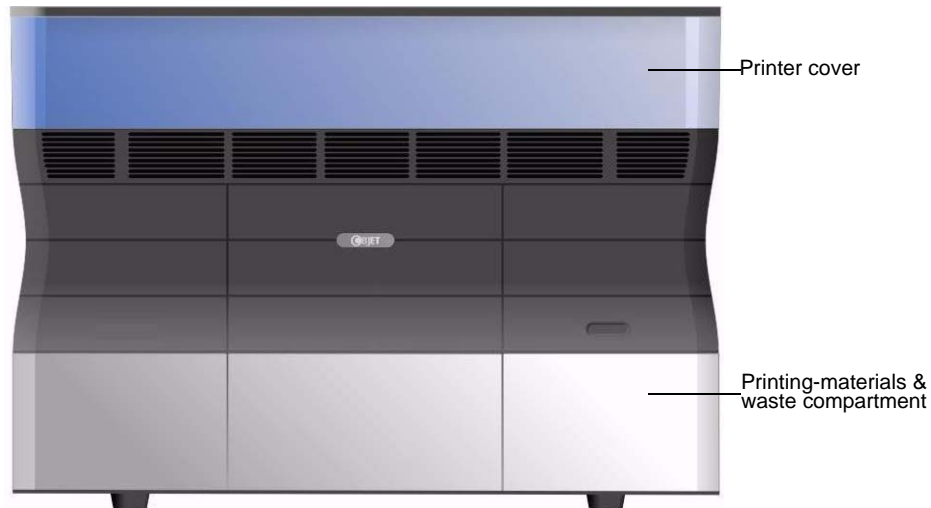

Figure 7-1: The Alaris30 3-D Printer
1. On the front of the Alaris printer (see figure 7-1), push the printing-materials drawer to release it and pull it open.